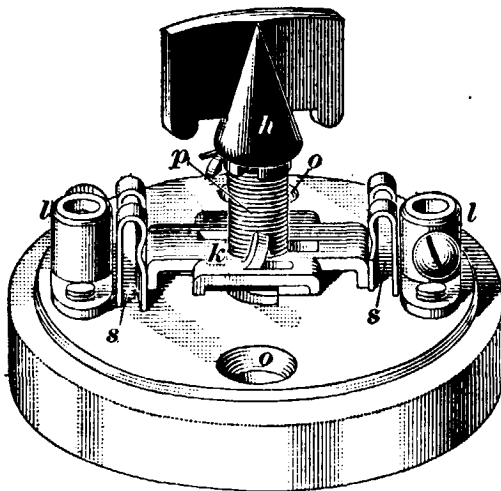

FIG. 46.
42. Switches for Car-Lighting Circuits. — Fig. 46 shows a type of single-pole lamp switch that is largely used. It can be used to control a single independent circuit or any number of circuits within its capacity, if all the circuits can